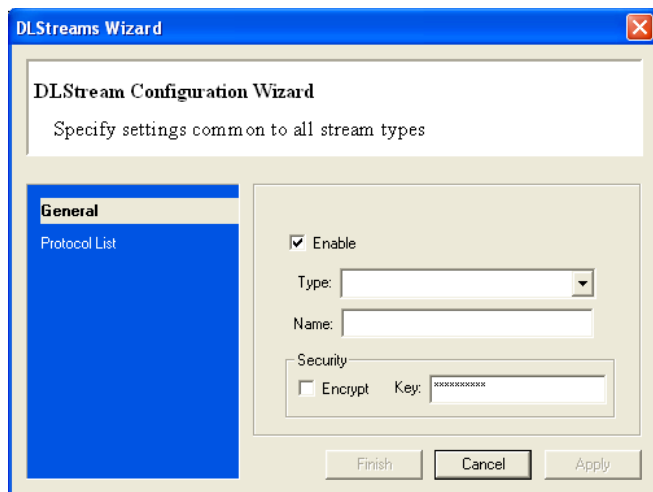

Figure 17: DLStreams Wizard
3. In the *DLStreams Wizard* window (*Figure 17*), enter the following settings:
6. Back in the *DLStreams Wizard* window (*Figure 17*), enter the following settings: